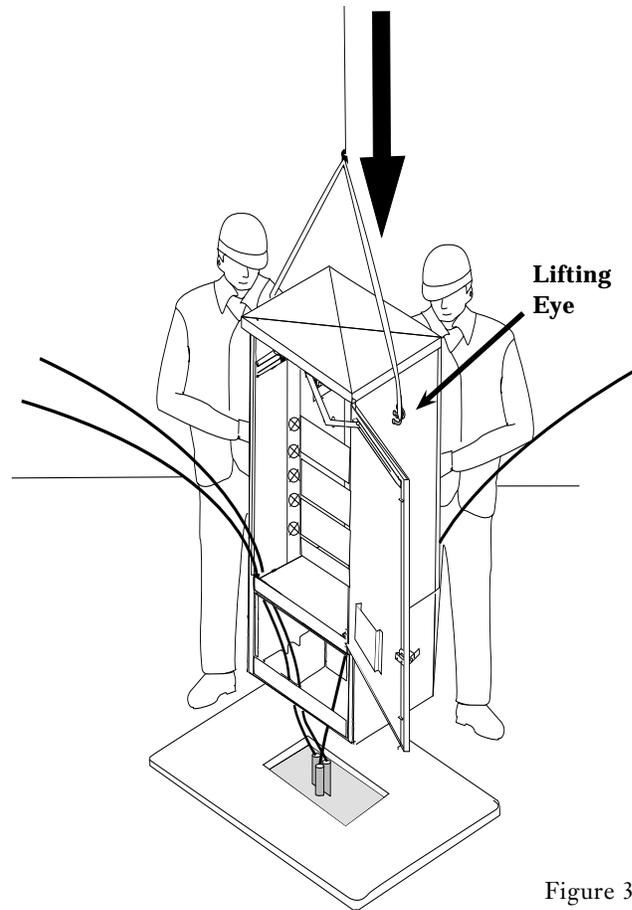

Figure 3
- Step 4** Attach a cable hoist to the OCC lifting eyes (Figure 3).